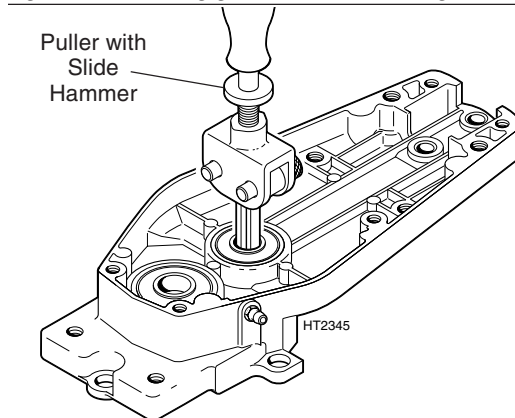

Figure 19. Using a bearing puller.
STEP 2. Use a bearing puller equipped with reversible jaws and a slide-hammer to remove the cam bearing and the clutch drum bearing from the gearcase housing (Figure 19).